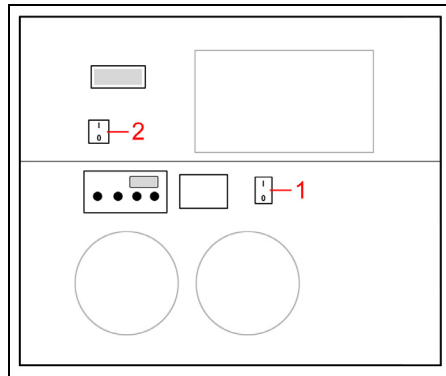

Figure 67: Cooling and supply unit for the "InSight DeepSee" infrared laser
1. Switch on the cooling for the infrared laser (**see Figure 67, item 1**). The cooling requires approx. 4 hours to regulate the temperature of the infrared laser.
- After 4 hours, switch on the supply unit for the infrared laser (see **Figure 67, item 2**).